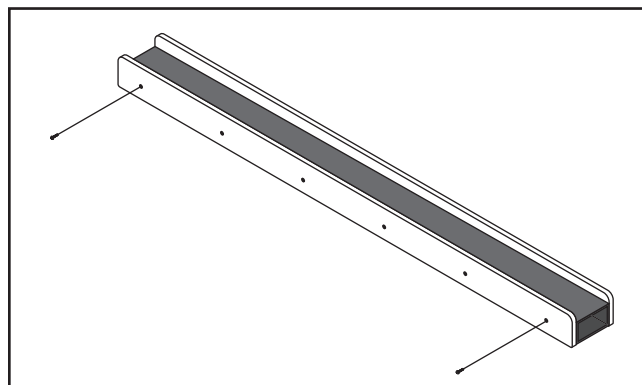

Figure 20. Reattaching fence face.
9. Re-attach the fence face at both ends, as shown in **Figure 20**.